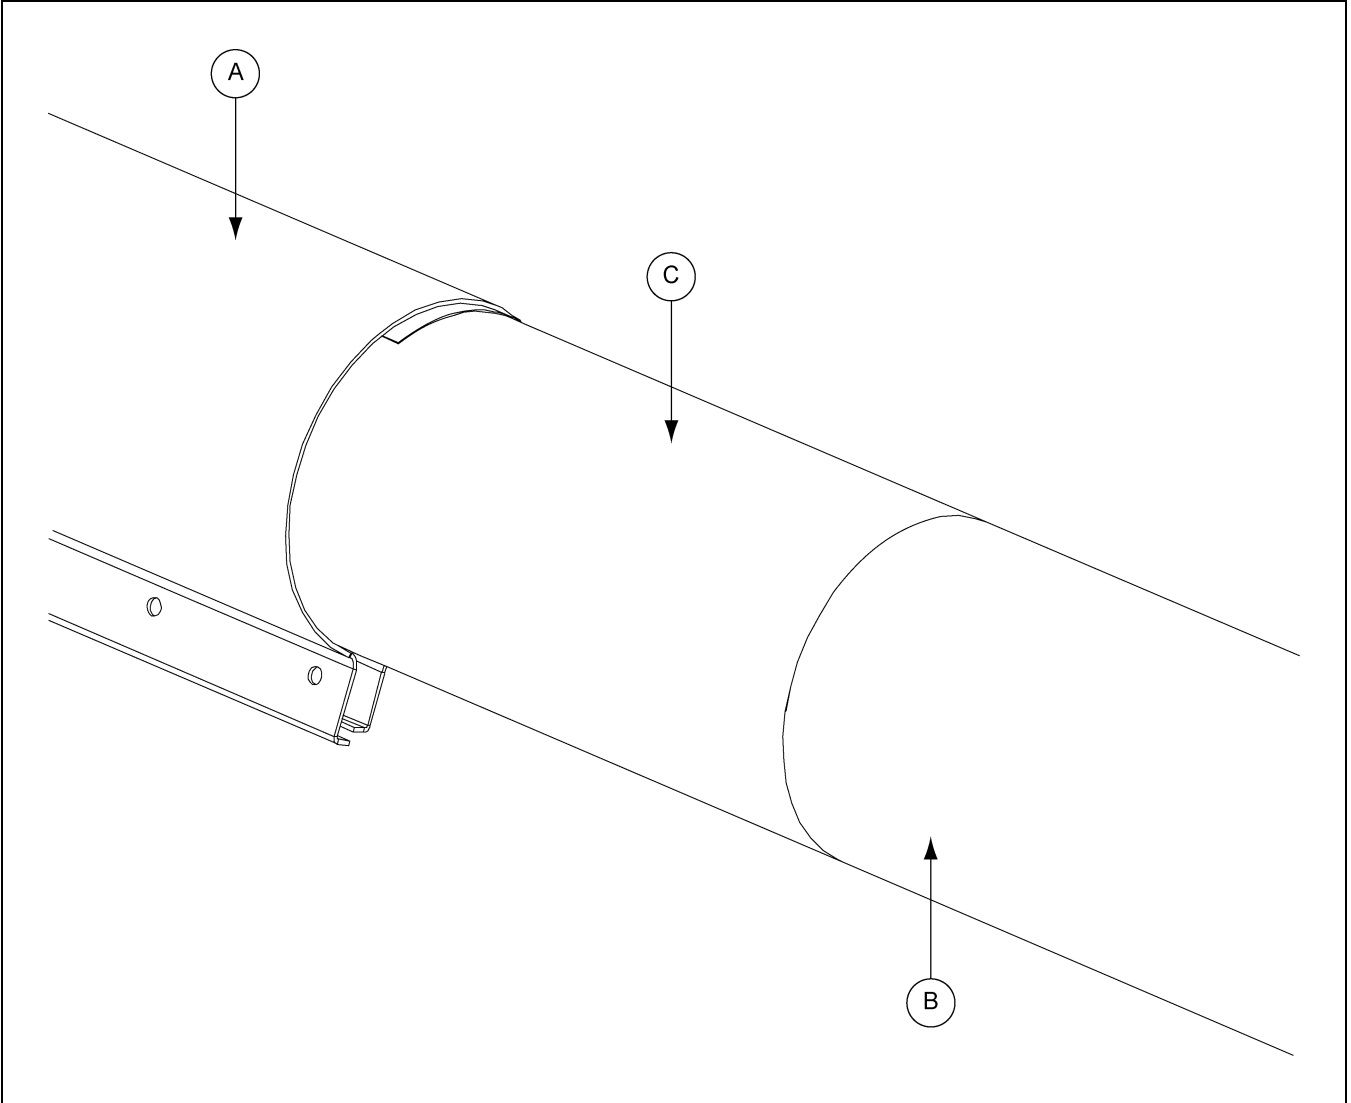

Figure 4N
- Slide the extension tube (C) over the extension flight, making sure the tube is pressed securely against the main auger tube (B). (See Figure 4N.)